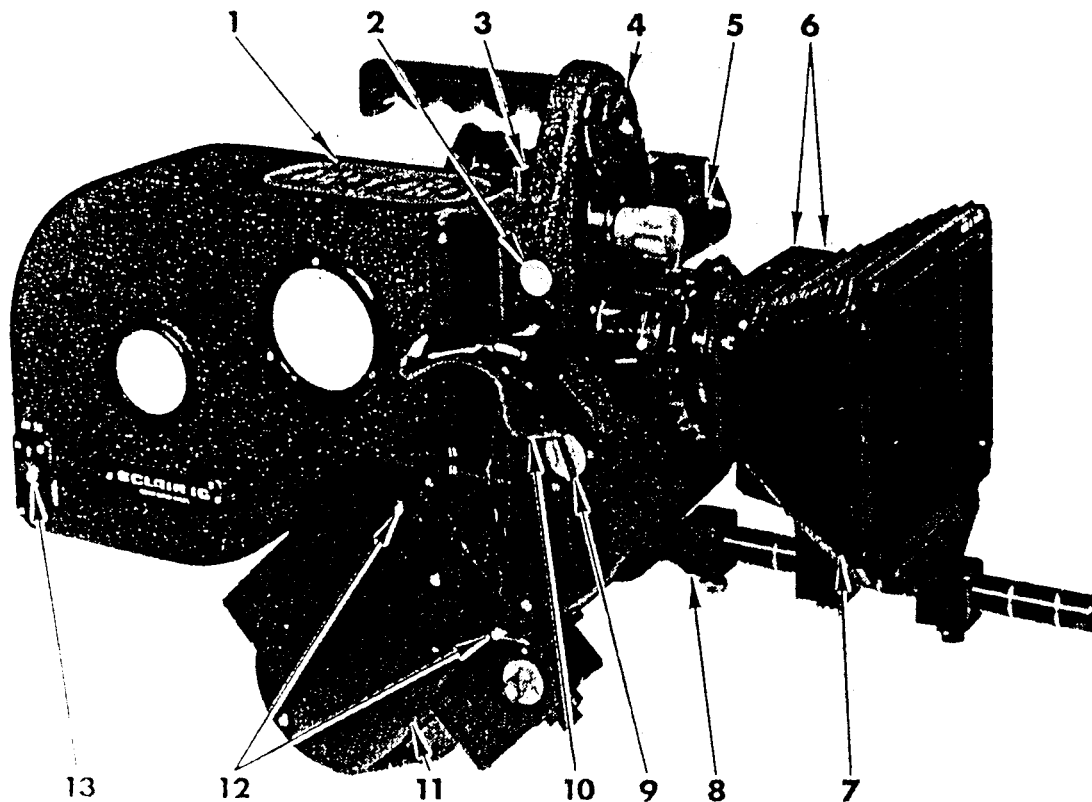
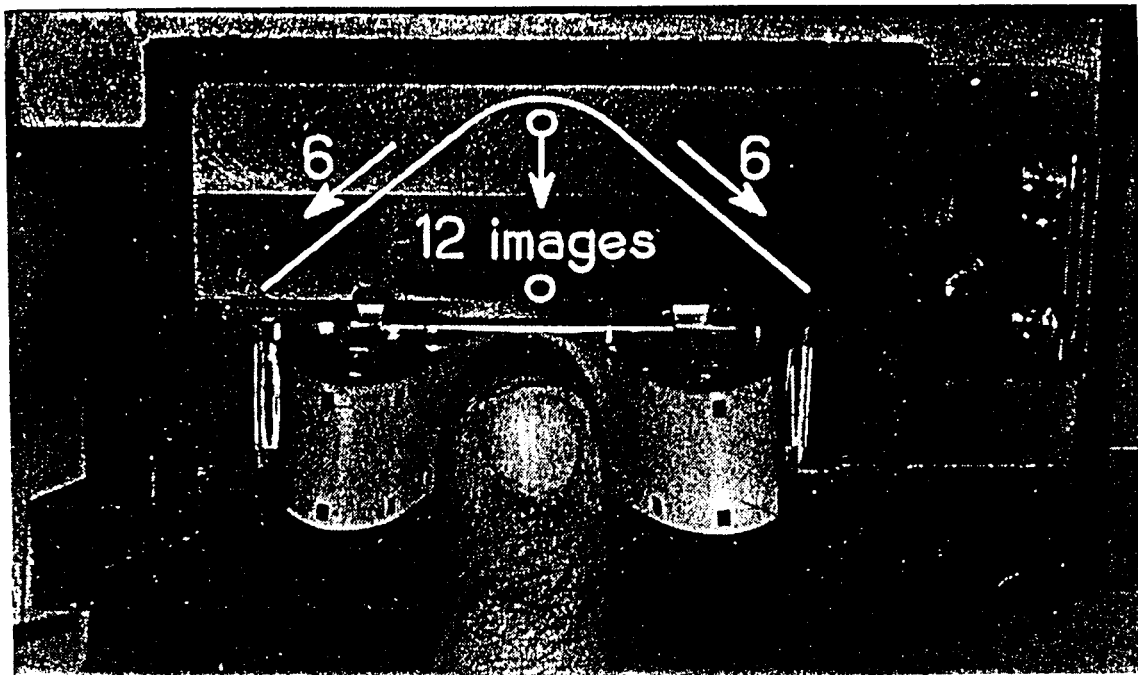

Fig. 13-10. Eclair NPR with standard lens and matte box (right side).
Fig. 13-14. Eclair NPR—dividing the loop. Courtesy of Eclair International Diffusion.
13.7 ECLAIR NPR 16 CAMERA* (Figs. 13-10, 13-11)
13.7g Sunshade/matte box (see Fig. 13-10)
Bellows/sunshade slides on a single rod (Fig. 13-10) which inserts into a socket below the taking lens. On some models, a cradle mounted on a rod, which is inserted into the socket, supports a zoom lens when the sunshade is not used.
Double holder in matte box houses two 2 × 2 in. glass holders (Fig. 13-10). The rear holder rotates.
1. Pull film from the face of the magazine and set the loops (see Sec. 13.8f and Fig. 13-14). 2. Set lower front of magazine into notches at the bottom of the gate plate. Press the circular magazine lock button (Fig. 13-10) at the top-right side of turret housing. Tilt magazine up and forward until it is flush with the camera plate. 3. Release the magazine-lock button and check the magazine for proper seating. If the lock button is not quite flush with the side of the camera and the magazine is tight, it is secure. 4. Push the locking cam at the top of the camera toward the eyepiece (to the left) and force the wedge into the top of the magazine recess.
15. *To set loops* (Fig. 13-14): Press the forefinger into the center of the 12–13-frame arc to form two equal halves which, when pushed back into the magazine, will form the upper and lower internal loops. (There should be six frames for the top loop, six to seven frames for the bottom loop.)